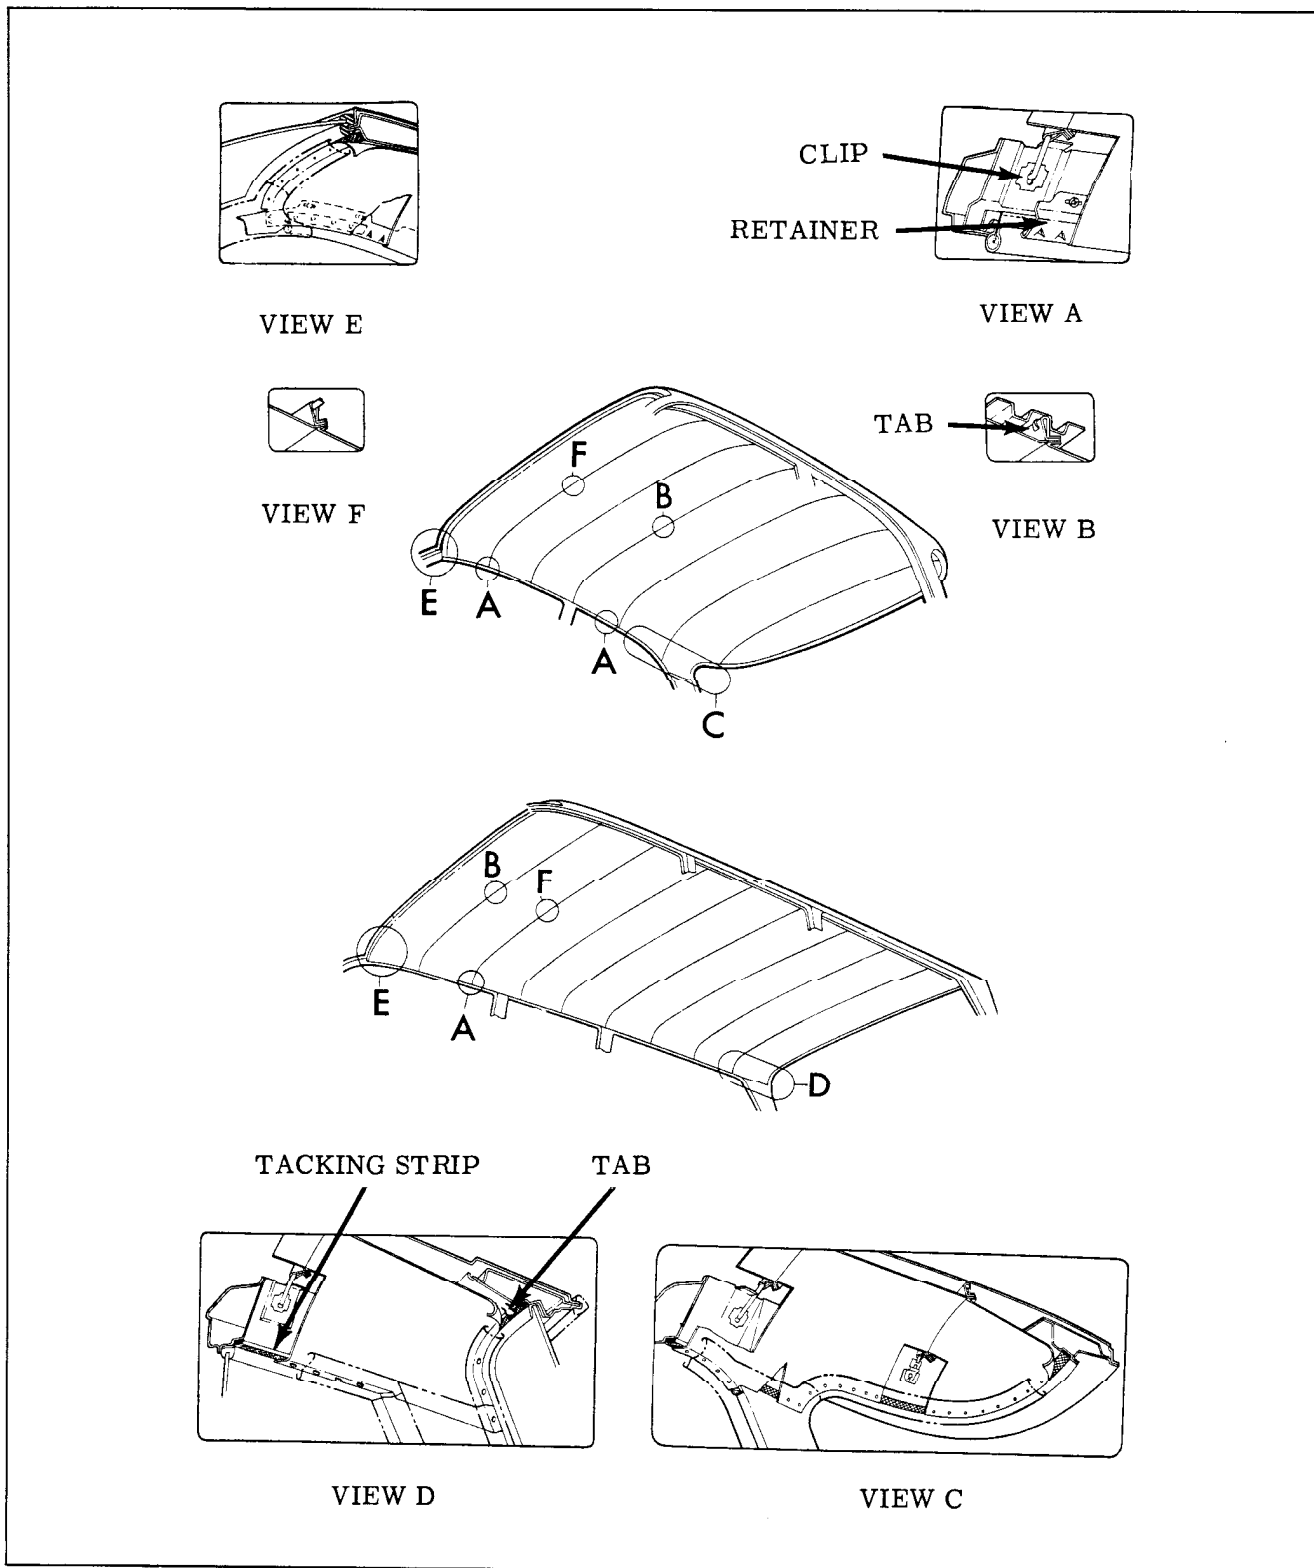
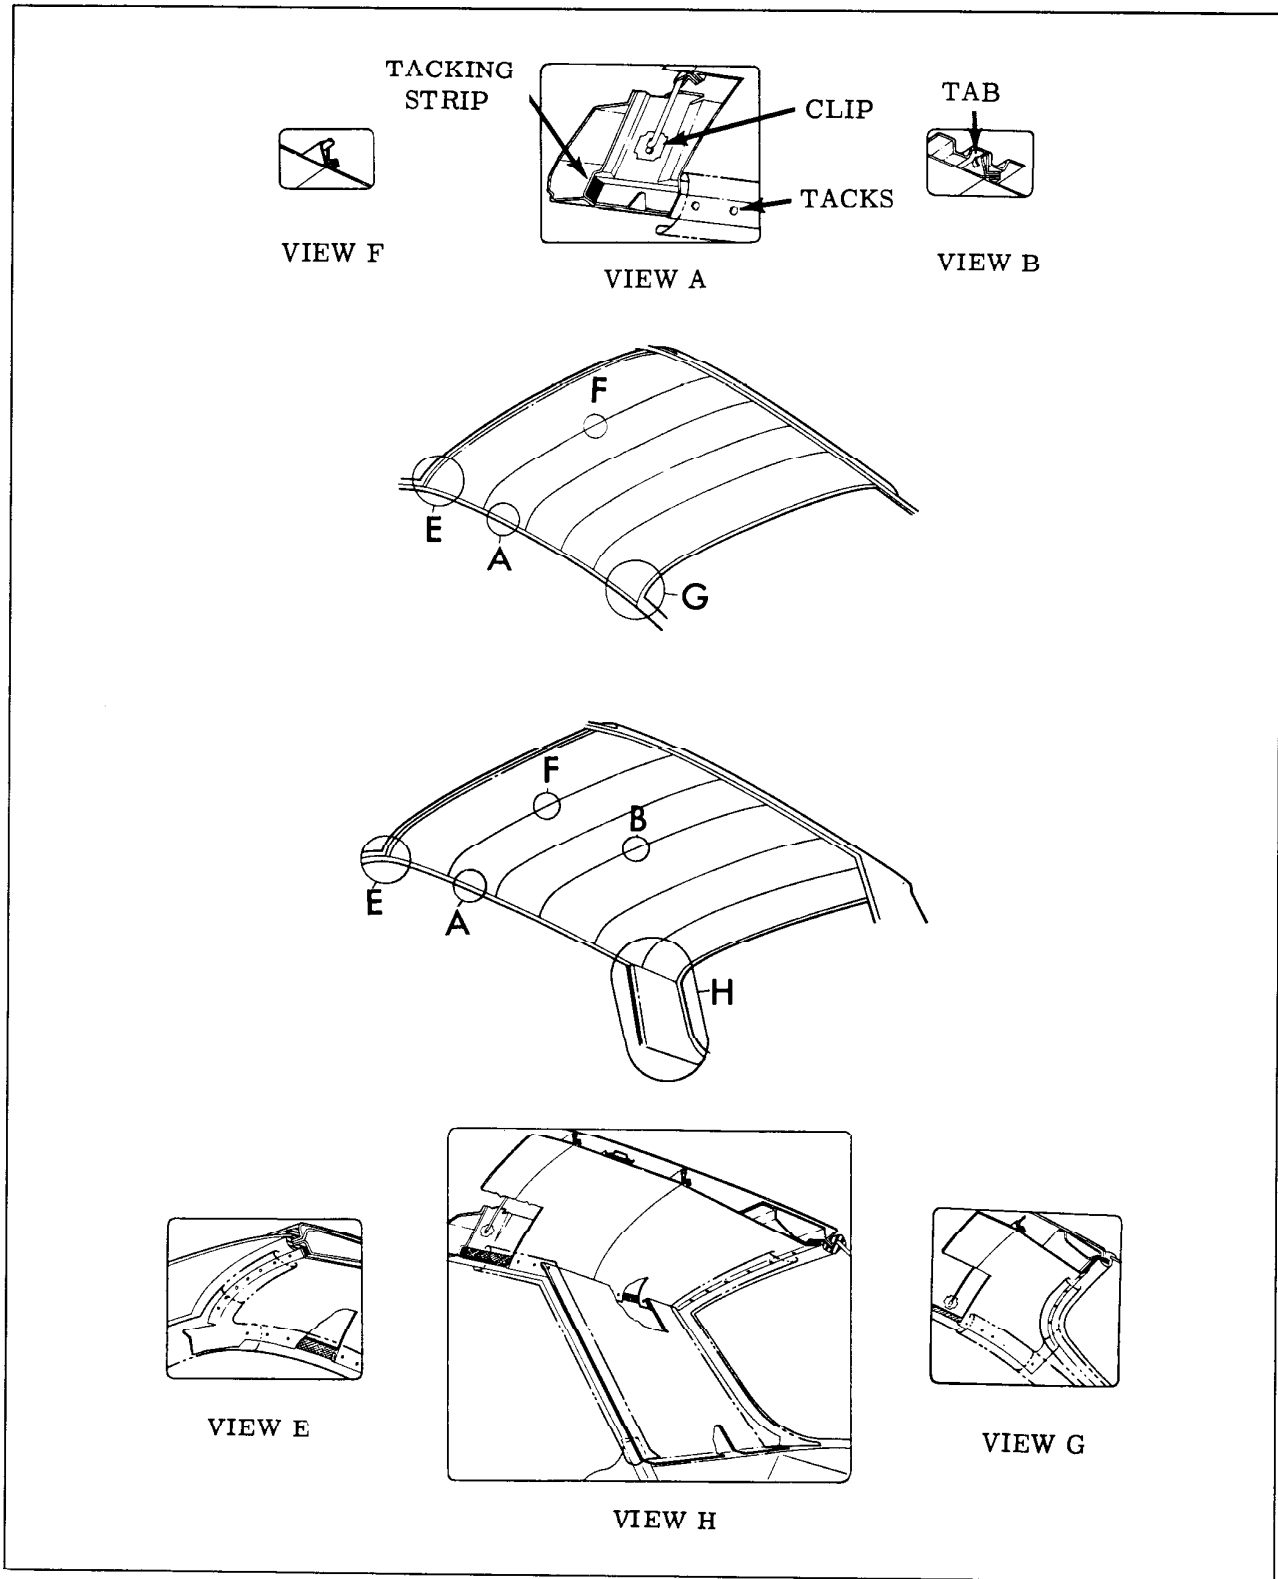

Fig. 17-65 Headlining Assembly
Fig. 17-66 Headlining Assembly
4. On styles where headlining is secured to side roof rails by retainers, use Headlining Inserting Tool J-2772 or similar wide-bladed tool and carefully disengage headlining from retainer tabs. (View "A", Fig. 17-65)
5. Working from front to rear of body, disengage headlining listing wires from side roof rails, gathering or folding headlining with listing wires on outside to keep headlining clean. Bend down metal tabs at bows on bodies using tabs to support listing wire. (View "B", Fig. 17-65 and 17-66)
6. Disengage headlining on Styles using foundation board from metal tabs or retainers at back window and remove headlining assembly from body. (View "D", Fig. 17-65)
IMPORTANT: Note into which hole the ends of the listing wires are installed to insure proper installation. (View "A", Fig. 17-65 and 17-66)
and engage foundation board where used under metal retainer or metal tabs above back window. (View "D", Fig. 17-65) Then working forward, install ends of listing wires into listing wire holes along side roof rail.
stalled in correct hole in clips to insure proper contour of headlining. (View "A", Figs. 17-65 and 17-66)
3. Install balance of listing wires into proper holes in listing wire clips. (View "A", Figs. 17-65 and 17-66) Install listing wire where
hooks and sunshade support locations. Then apply trim cement to headlining tacking surfaces at windshield and back window opening. (Views "C", "D" and "E", Fig. 17-65 and Views "E", "G" and "H", Fig. 17-66) Stretch
5. Remove all "fullness" and "draws" from headlining material and permanently tack headlining to tacking strips. (View "A", Fig. 17-66)
NOTE: On those styles where side roof rail moldings are not used, use Headlining Inserter Tool J-2772 or similar wide-bladed tool and carefully tuck edges of headlining under metal retainer tabs along both side roof rails. (View "A", Fig. 17-65)